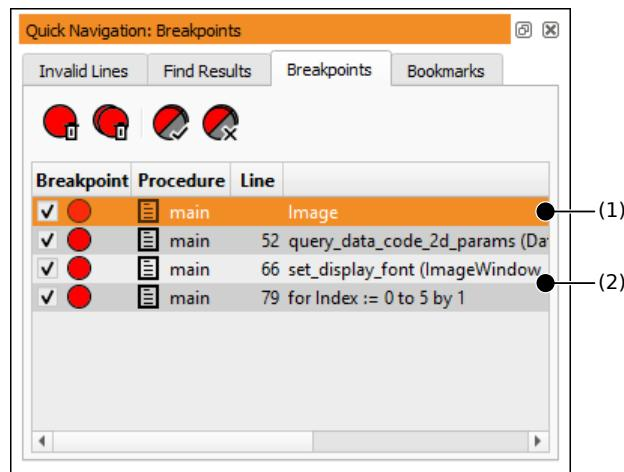

Figure 6.25: Managing breakpoints in the quick navigation window: (1) breakpoint on variable, (2) line-based breakpoints.
The tab card lists all variables or program lines marked with a breakpoint (see figure 6.25). Information about the breakpoints is given in the column Context: Breakpoints on variables (1) list the variable name, while line-based breakpoints (2) list the program line (its line number is given in the column Line).